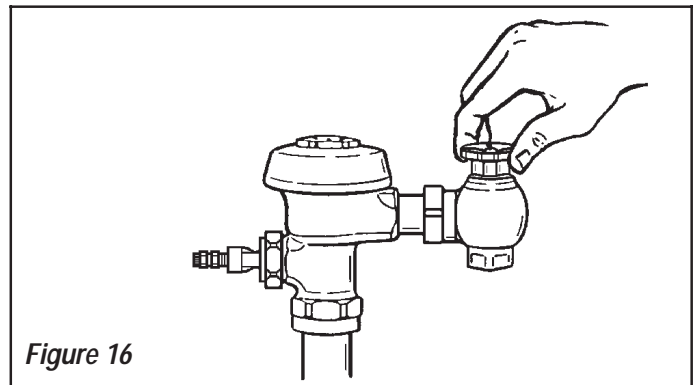

Figure 16
Step 7 — Adjust Control Stop (Figure 16)